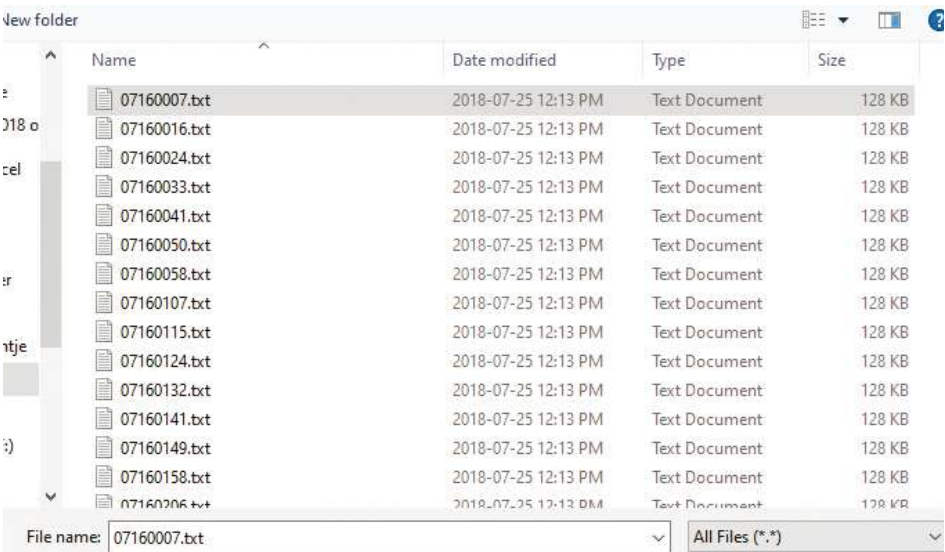

Fig 5.2 Screen Showing ".txt" Files downloaded from SD Card into Computer Directory
- All Text Files (.txt) will be displayed. The screen will look like Fig 5.2.